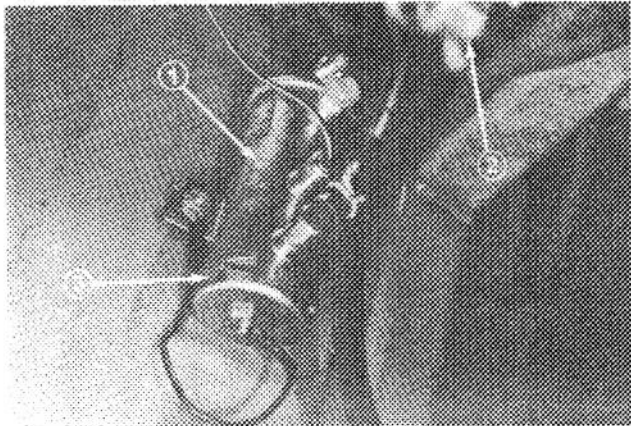
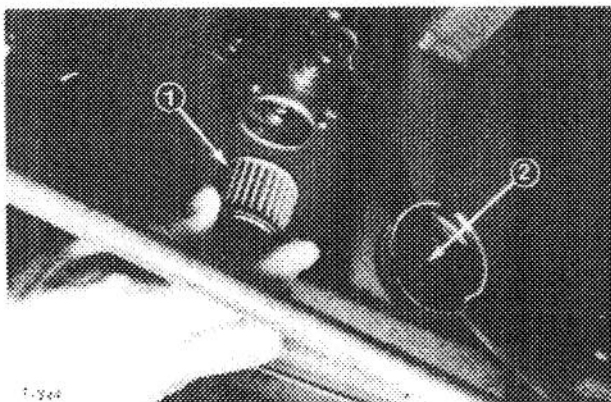

Figure 49
Figure 50
1. Fuel pump is located on inner frame bulkhead to left of drive coupling assembly (Fig. 49).
3. Place a drain pan under fuel pump and remove cover from fuel pump with 17 mm wrench (Fig. 49). Take care not to damage wire while removing cover.
4. Pull filter out of pump body (Fig. 50).
6. Clean magnet of any residue (Fig. 50), insert filter into body, and install cover (Fig. 49).